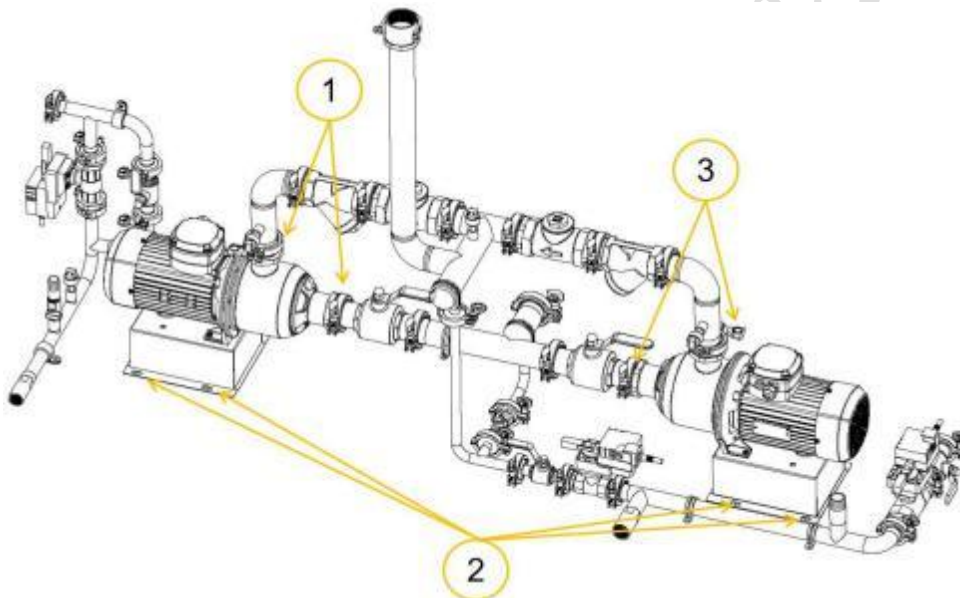

Figure 10.4 Pump removal
Pump replacement is as shown in Figure 10.4.
Step 2 As shown in Figure 10.4, remove the chucks at the pump inlet/outlet ports, then remove the fixing bolts from the pump base.